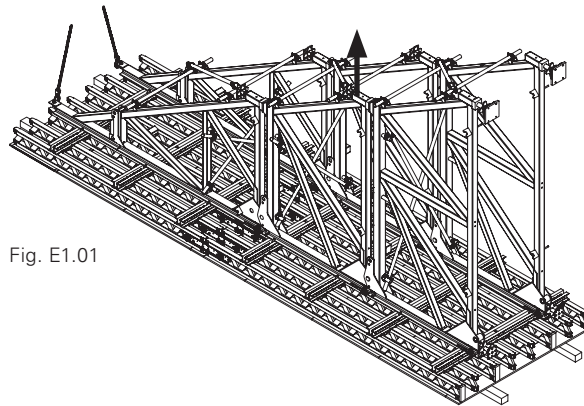

Fig. E1.01
1. Attach transportable unit to the crane. (Fig. E1.01)